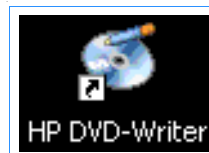

Figure 31 HP DVD-Writer Desktop Icon
- Double-click the **HP DVD-Writer** desktop icon (see Figure 31).